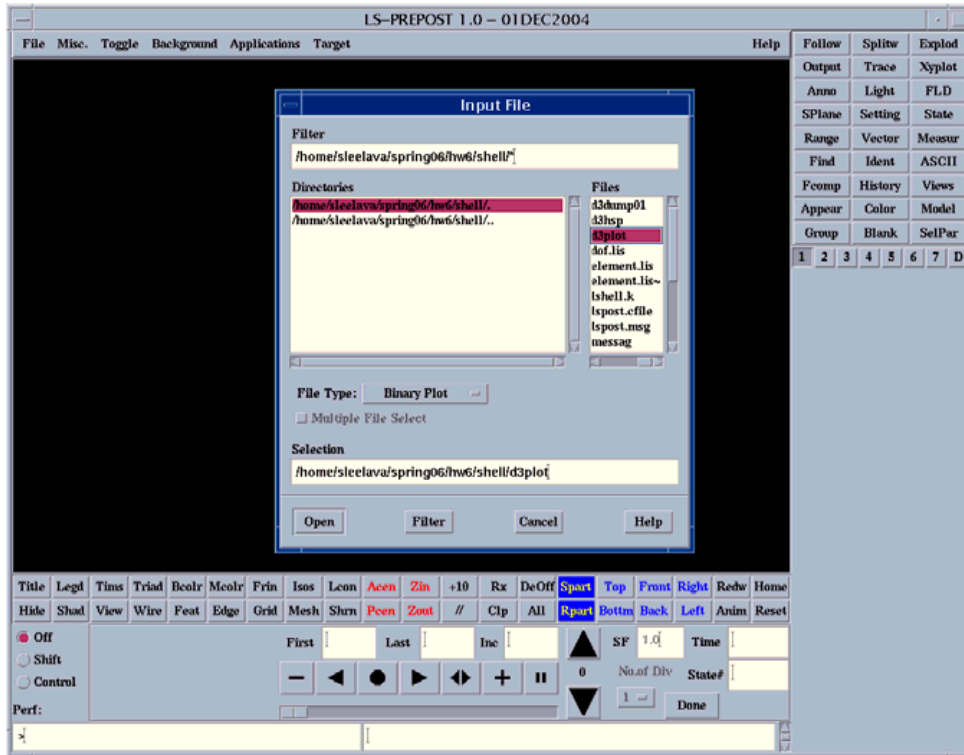

Figure 6: Binary file selection.
3. Select *d3plot* from the selection window (Figure 6).